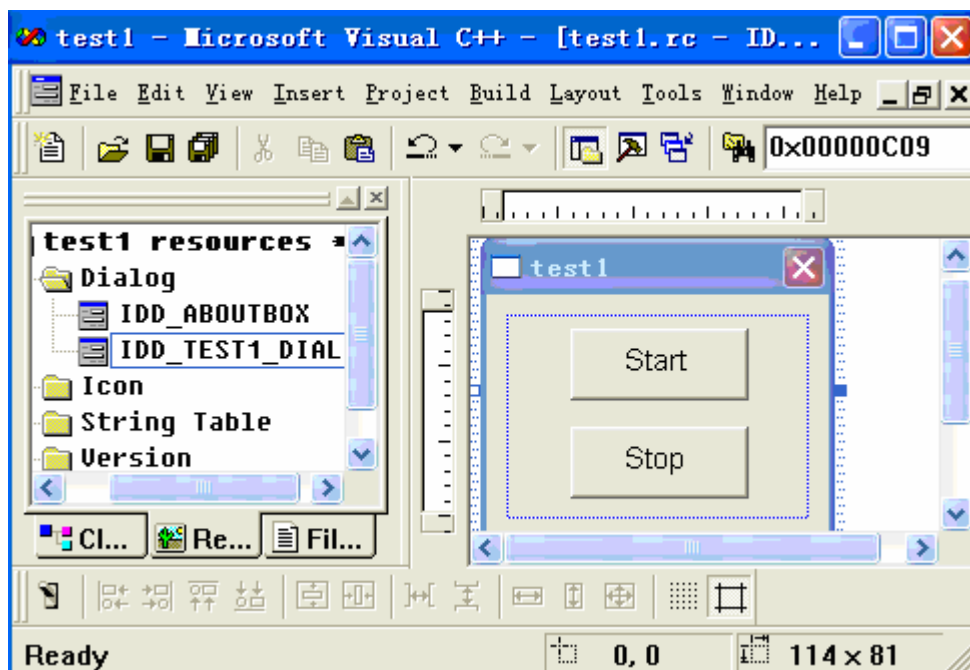

Figure 5-6 Add 2 buttons
(7) Add 2 buttons “START” and “STOP” in the dialog page. Set “START” button name as IDC\_BUTTON\_Start, and “STOP” button name as IDC\_BUTTON\_Stop. See figure 5-6;